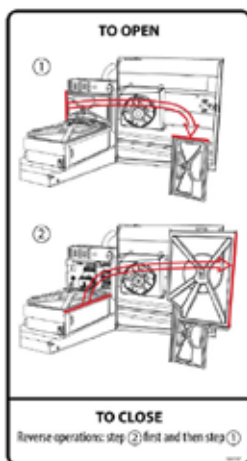

Figure 2: Battery cover instruction decal
- 2) Locate instruction decal on the battery cover. (Fig. 2, 3)